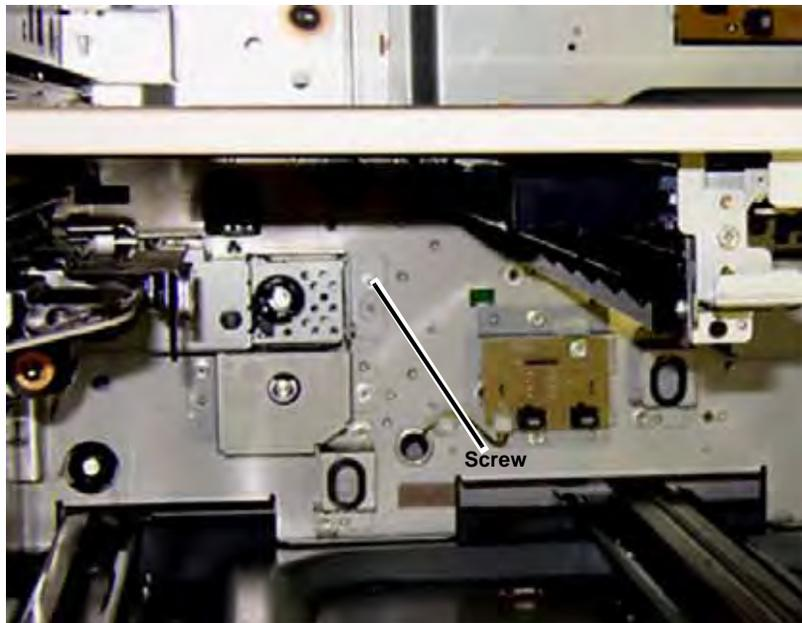

Figure 5 Removal
7. Remove Feeder 3 (Figure 5).
- a. Remove the inside rear mounting screw (1)